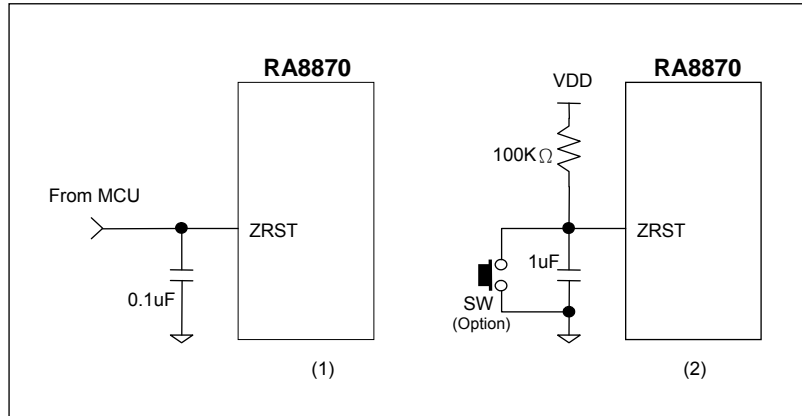

Figure 6-31 : Examples of RST# Pin
Figure 6-31 is an example for Reset application circuit. It could be controlled by MCU such as (1) of Figure 6-31, or generated by a RC circuit such as (2) of Figure 6-31.